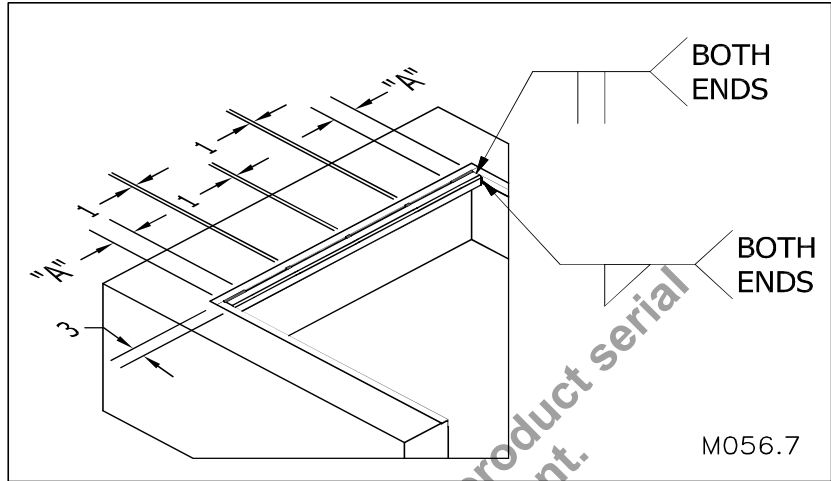

Figure 25: Welding the 3 X 3 Square Tubing to the Curb Angles
3. Weld the ends of the square tubing to the side curb angle (see "Figure 25: Welding the 3 X 3 Square Tubing to the Curb Angles" on page 24. Add vertical welds at the ends of the tube between tube surface and side curb angle surface.